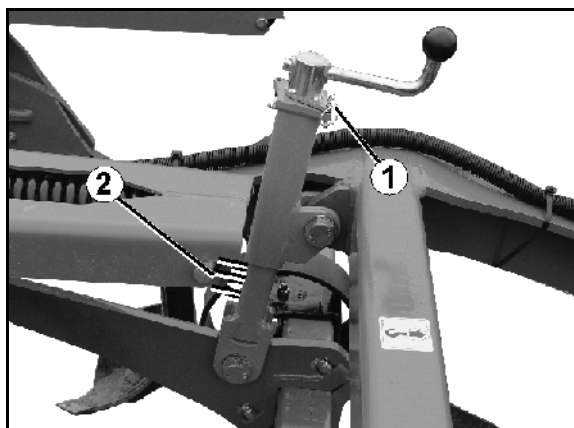

Fig. 22
1. Remove the linch pin (Fig. 22/1).
- A scale is provided for orientation on the adjustment units (Fig. 22/2).